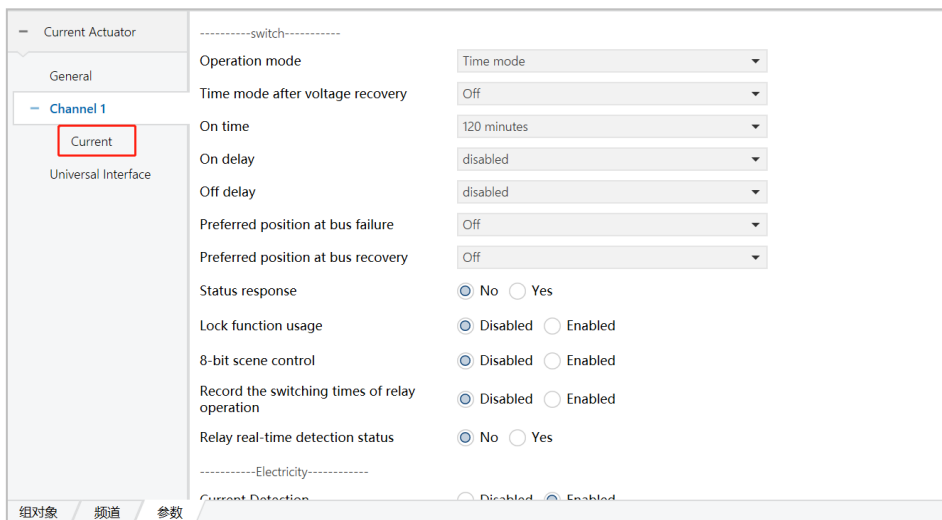

Figure 6.2.1
(1) The parameter "current detection" means current detection, when selecting "Enabled", the interface will appear as shown in Fig. 6.2.1, and the options in the red box will appear as shown in Fig. 6.2.1.